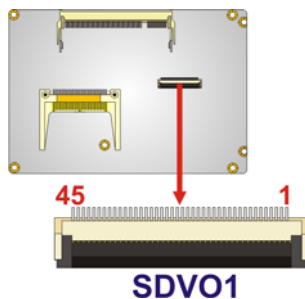

Figure 3-21: SDVO Connector Location
- CN Location:** See **Figure 3-21**